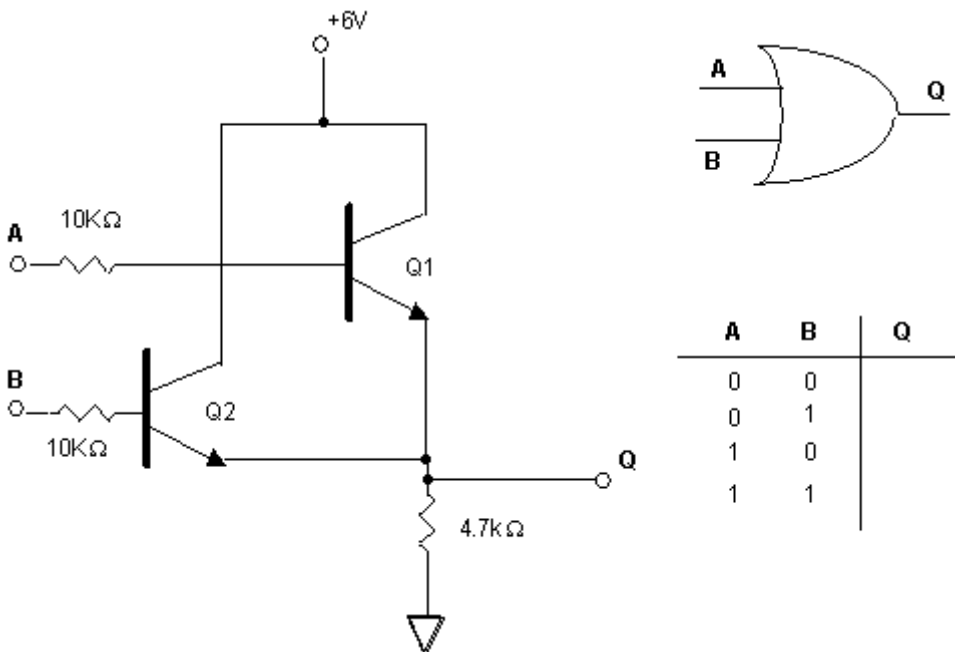

Figure 4. OR gate implemented using NPN transistors.
3. Configure an OR gate using a pair of transistors as shown in Figure 4. An OR gate is a circuit whose output is HIGH if either input (or both) is HIGH, and LOW only if both inputs are LOW. (Note that the logic term "HIGH" means a that a voltage is somewhere between 4 and 6 volts; whereas a "LOW" level is a voltage is near zero volts, say zero to 0.5 volts) Connect and disconnect wires from +6 V to points A and B to pull the inputs high (logic 1 or +4V to +6V) or low (logic 0, <0.5V). Remember that when the base voltage goes HIGH the transistor turns on and the collector and emitter are connected to each other as in the 'On Model' circuit above. When the applied input base voltage is removed the transistor turns off. NOTE: The base inputs need not be grounded in this case; they may be left floating. The logic symbol and input-output "truth table" for an OR gate are shown below. Verify the operation of this circuit by fabricating it on your breadboard and filling out a truth table including the output voltages actually measured in your notebook.
4. Configure an AND gate using a pair of transistors as shown in Figure 4. The output of an AND gate is HIGH only if both inputs are HIGH, and LOW otherwise. Control the input signals as discussed in the previous problem. This AND gate circuit is very sensitive to the values selected for the resistors which may differ depending on the individual transistors used - even different transistors from the same bin. (This is one reason that the RTL logic gates that we have constructed has been superceded by TTL gates that we will use in the next lab.) Experiment to find the value of R required for proper operation for all possible inputs. The logic symbol and truth table for the AND gate are shown below. Verify the operation of this circuit by fabricating it on your breadboard and filling out a separate truth table (including actual voltages measured) in your notebook.